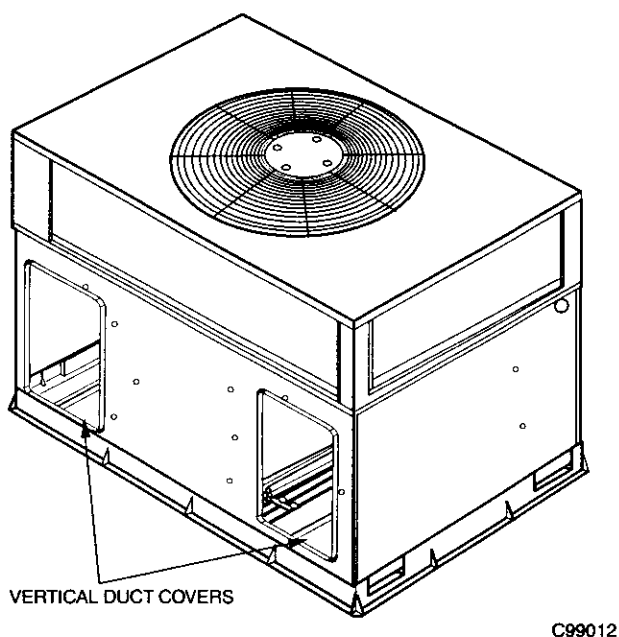

Fig. 12—Vertical Duct Cover Removed
2. Remove side duct covers to access bottom return and supply knock out covers (See Fig. 12).